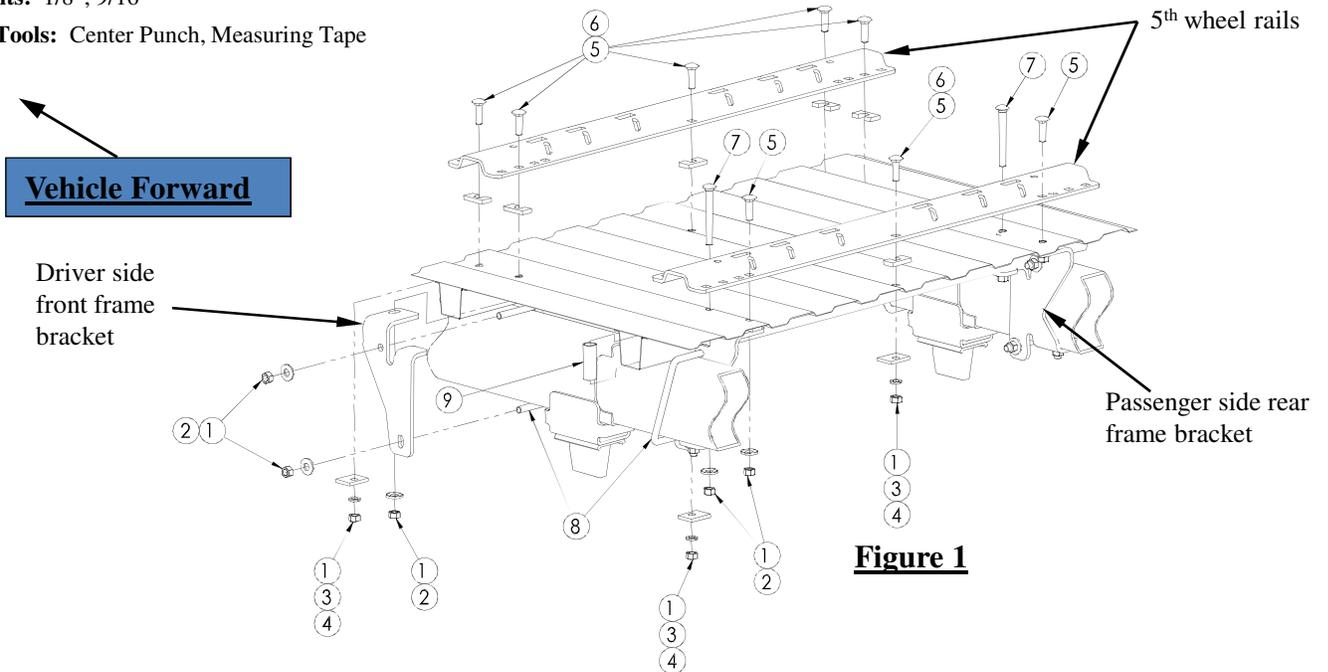

Figure 1
- a) Place the brackets on the inside of the frame as shown in Figures 1 and 2.
9. Install the 1/2" x 1-3/4" long carriage bolts with the u-shaped spacers in the rear holes of the rear brackets. Place the u-shaped spacers between the bracket and the bed as show in Figure 1 to prevent the bed from collapsing when the bolts are tightened.
11. Install the 1/2" x 1-3/4" long carriage bolt in the center hole of the rear rail as show in Figure 1. Place a u-shaped spacer between the rail and the bed, and attach the bolt with a 1-1/2" x 2" spacer, 1/2" lock washer, and hex nut on the bottom.
- a) Place the brackets on the outside of the frame as shown in Figures 1 and 2.
15. Install the 1/2" x 1-3/4" long carriage bolts and u-shaped spacers in the front rail as show in Figure 1. Place the u-shaped spacers between the rail and the bed. To attach the carriage bolts to the front frame brackets, use 1/2" conical washers and hex nuts. To attach the other carriage bolts to the bed, use 1-1/2" x 2" spacers, 1/2" lock washers, and hex nuts.